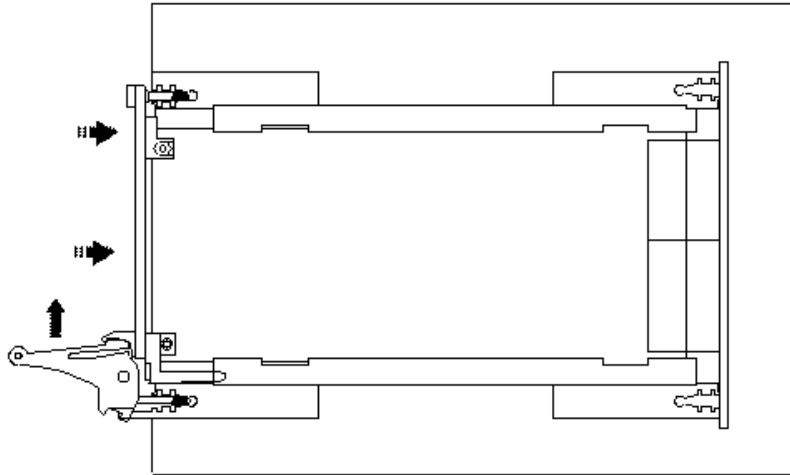

Figure 3-3: Ejector handles position after module insertion
- After you feel resistance, push in the ejector handles as shown in Figure 3-3 to secure the module into the frame.